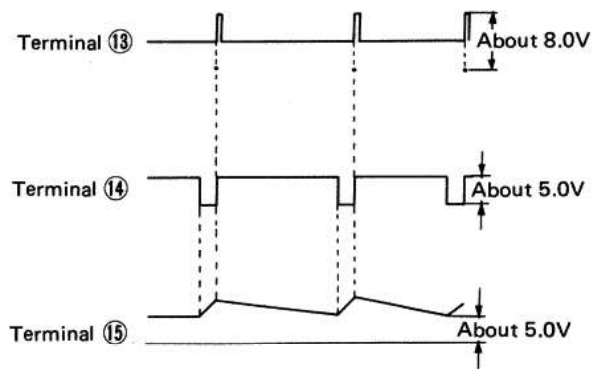

Fig. 14
3. Measure the waves at terminal ⑬, ⑭, ⑮ of IC201. When the output waveforms are as shown Fig. 14 the control circuit is normal.